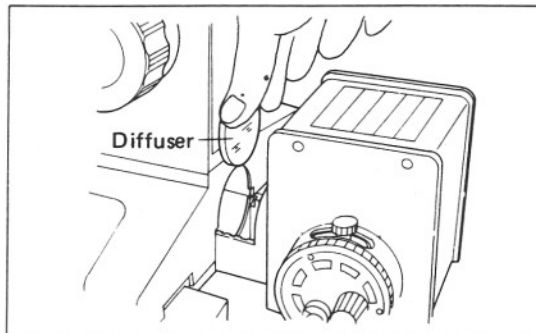

Fig. 9
- 10) As shown in Fig. 9, put the diffuser, with its matte surface faced toward the microscope stand, into the filter receptacle which is the closest to the microscope stand.